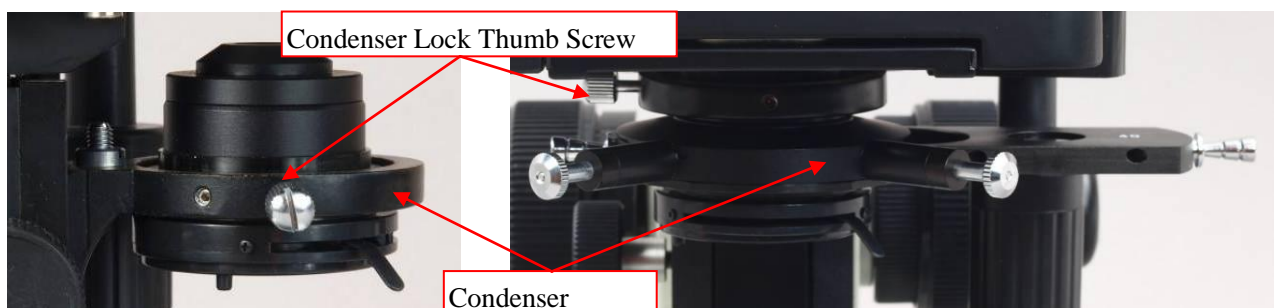

Fig.20
- e) Loosen the condenser lock thumb screw (**Fig. 20**), pull down the condenser and take it off.
- f) Insert the condenser/annular ring disk into the condenser holder, and tighten the thumb screw (**Fig. 20**).